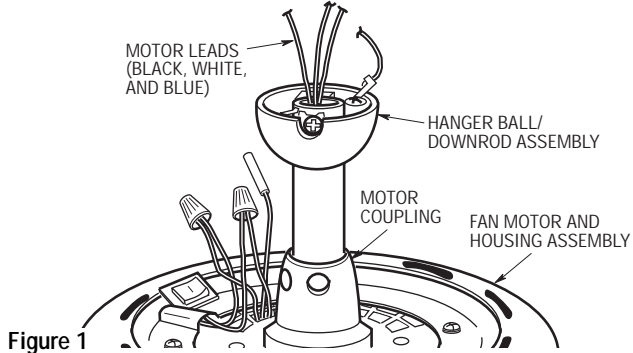

Figure 1
2. Separate, untwist and unkink the three motor leads. Route the motor leads through the hanger ball/downrod assembly and seat the downrod in the motor coupling (Figure 1).